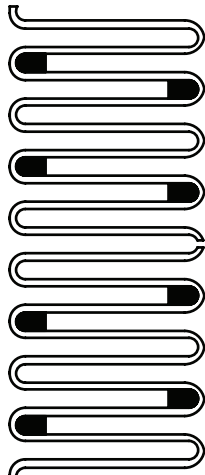

Figure 3 - Coil Spacers for sizes 1100 through 1200T
- C. **Sizes 1100 through 1200T** – Insert coil spacers in every other coil as shown in Figure 3. Remaining coil spacers should be distributed evenly among any open coils.